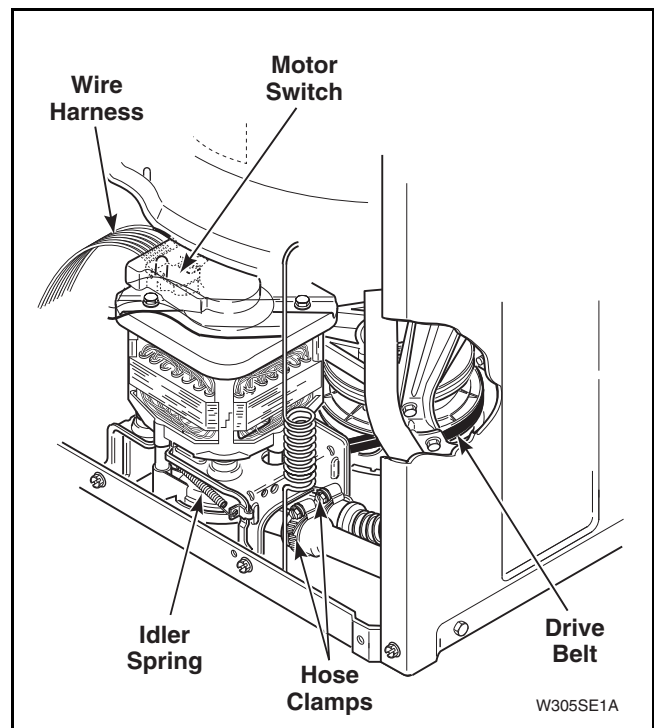

Figure 21
- c. Loosen hose clamps and remove hoses from pump assembly. Refer to *Figure 21*.
- d. Unhook idler spring from clip on front of motor mounting bracket. Refer to *Figure 21*.
- Reach in and around right side of motor and run belt off right side of large drive pulley. Refer to *Figure 21*.
- e. Reach in and around right side of motor and run belt off right side of large drive pulley. Refer to *Figure 21*.